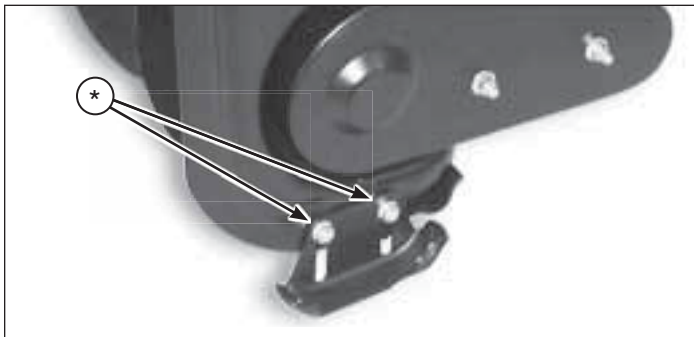

Figure 31
1. Loosen the nuts securing the skid shoes (*, Figure 31).